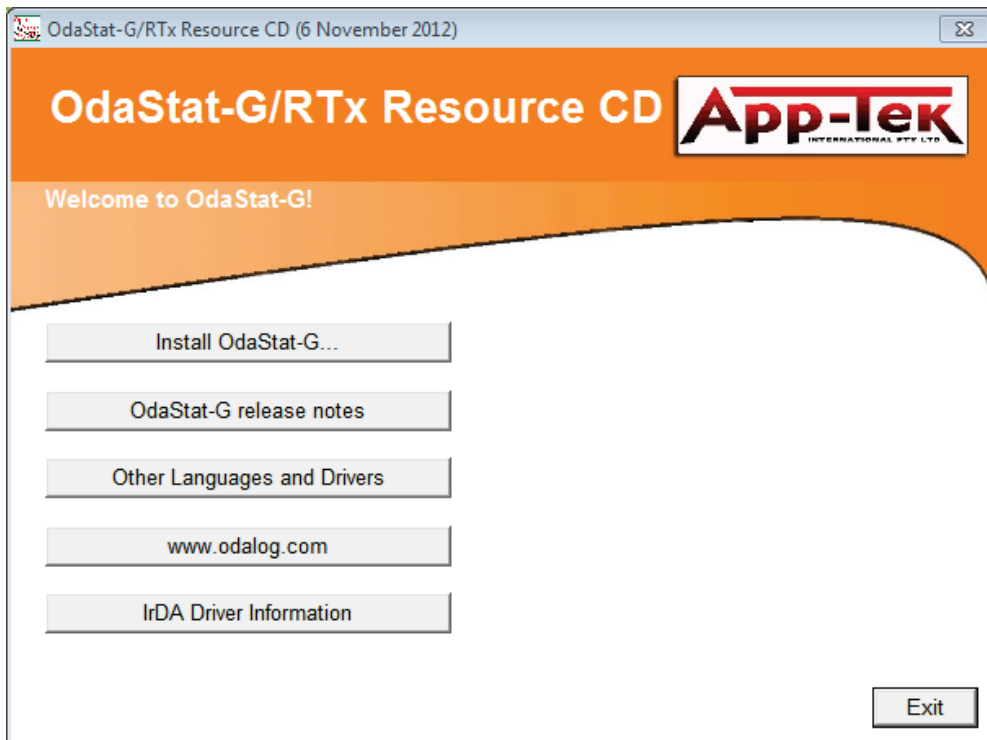

Figure 1: Auto Run Page
2. Windows should detect the CD and automatically open the file installation dialog box as shown in **Figure 1**. If this has occurred go to step 5, otherwise proceed to Step 3.
4. Double click on  “DTAuto Run” file to open Installation dialog box as displayed in **Figure 1**.
4. Double click on  "DTAuto Run" file to open Installation dialog box as displayed in **Figure 1**.